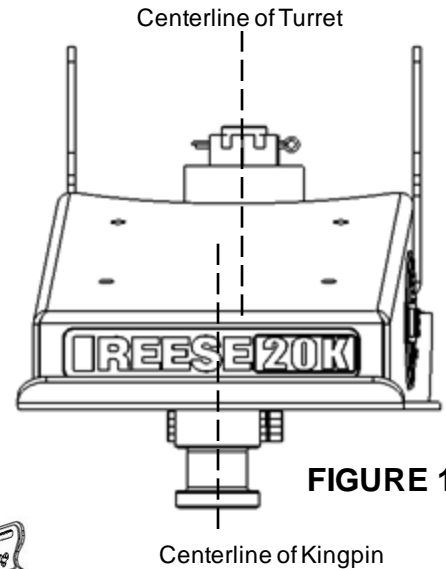

FIGURE 17
- NOTE:** For best wedge fitment, assure kingpin in aligned into the funnel of the 5th wheel hitch, and align the center of the hitch with the centerline of the turret (Figure 17).